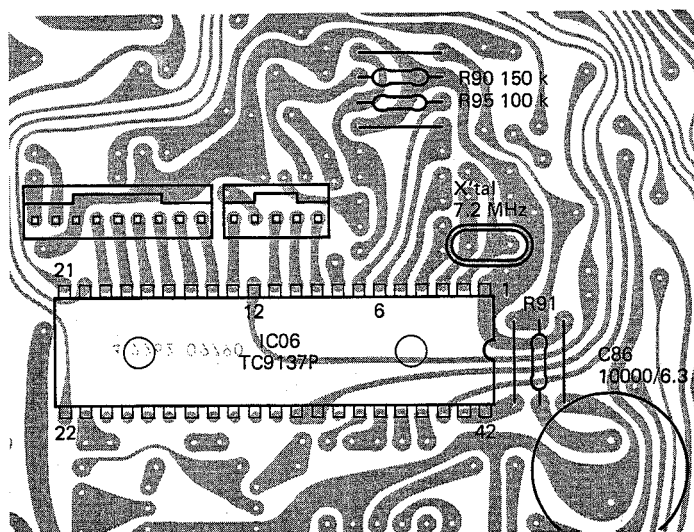

Fig. 2
3. Connect Pin No. 6 of IC06 (TC9137P) to GND with a jumper lead. (Fig. 2).